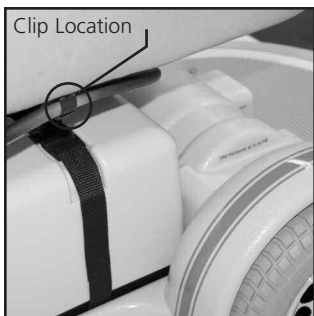

Figure 7C
3. Slide the controller bracket forward until it hits the key slot. (See Fig. 7B, Below). Remove bracket from arm and place on footrest or other safe location. Unlock cable from seat. (See Fig. 7C, Pg. 32).
2. Remove the controller cable from the seat clip by pinching the small tabs on the clip with one hand while removing the strap with your other hand. (See Fig. 7C, 7D and 7E, Below).